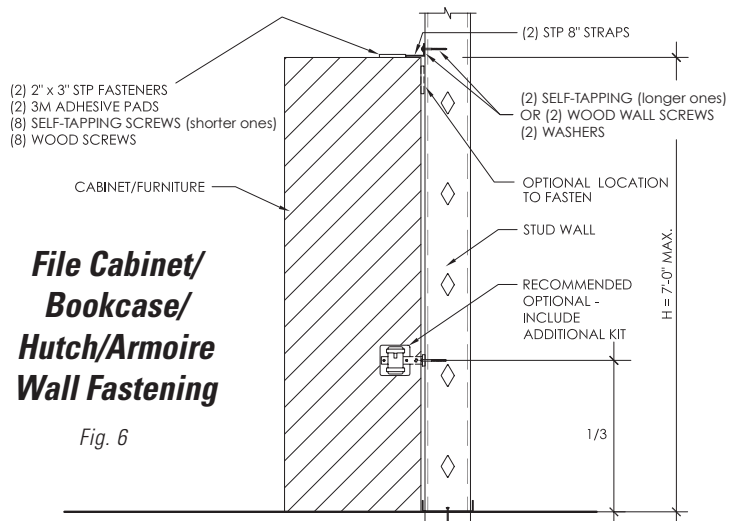

Fig. 6
**NOTE:** Photo in Figure 2 (reverse page), and details in Figures 6 and 7 (above) only show suggested fastener locations based on common situations. Your Engineer of Record should design and approve your anchorage based on site-specific conditions and applicable codes.